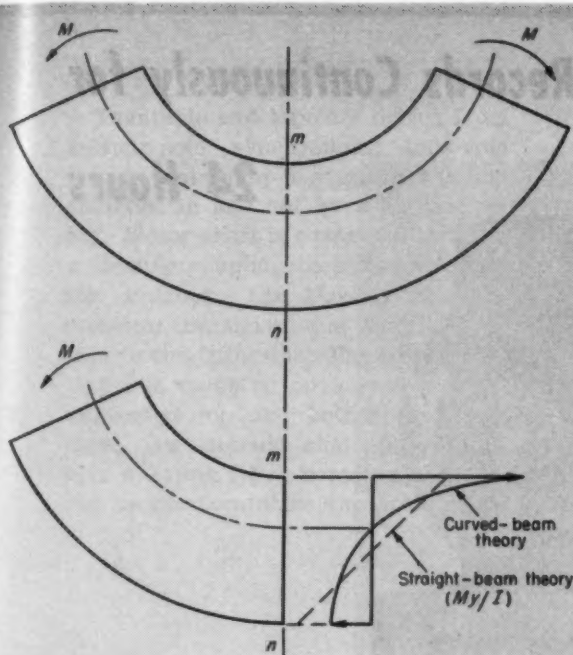

Fig. 23—Effect of initial curvature on the stresses within a beam
1. *Initial Form.* This is best classified by an example. If a relatively slender bar of given cross-section is subjected to pure bending, a linear stress distribution would result. If the same bar initially curved were subjected to the same bending moment, the resulting stress distribution would be hyperbolic as shown in Fig. 23. The "straight-beam" theory of flexure would give incorrect results for the latter case; the "curved-beam" theory would apply.